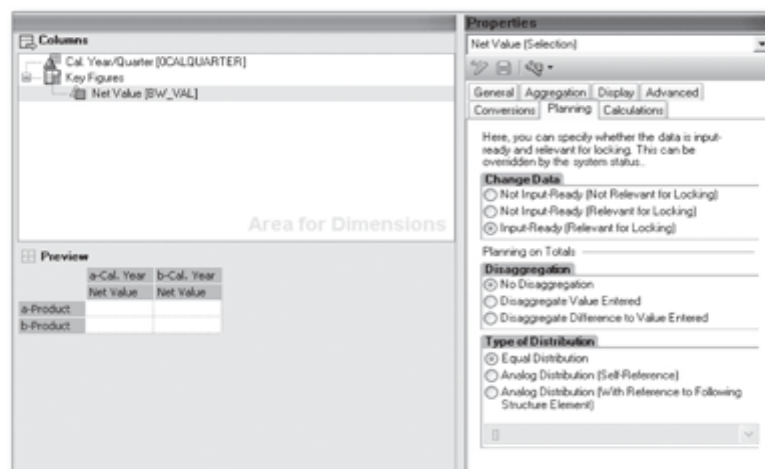

Figure 12.75 Key Figure Planning Properties
4. For the user to be able to edit the key figure values, the key figure needs to be enabled for planning. Go to the key figure properties, and click on the Planning tab (Figure 12.75).